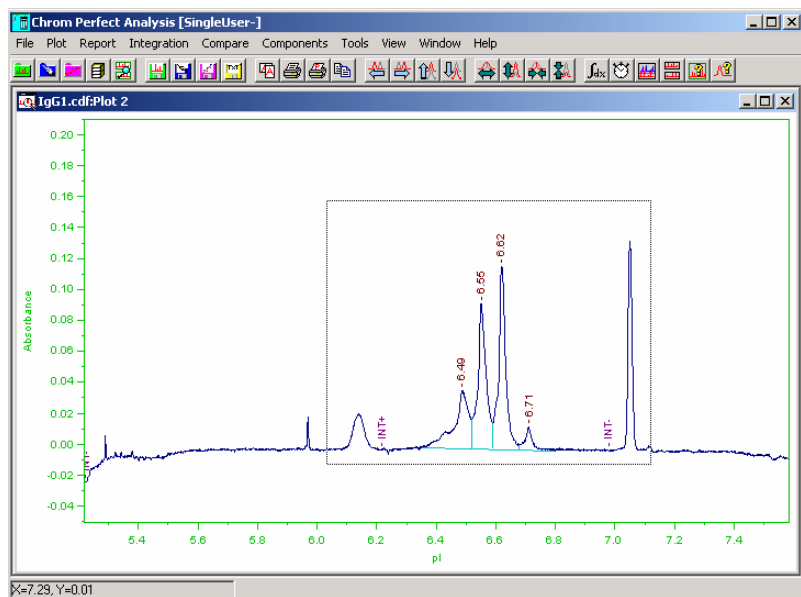
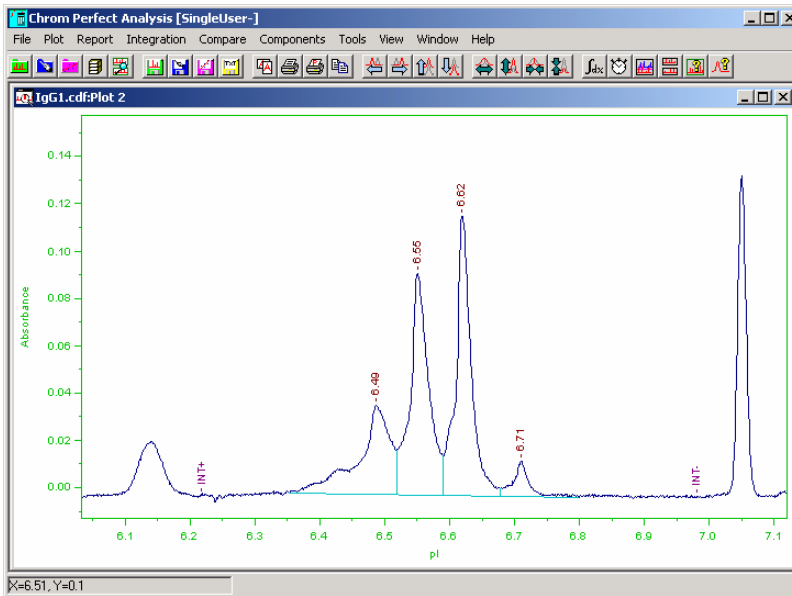

Figure A-16: Displaying Focused Peaks (A)
Figure A-17: Displaying Focused Peaks (B)
1. Zoom in on the display to focus on the region of sample peaks (as shown in Figure A-16 and Figure A-17). Use mouse to draw a box on the display, then, right click.